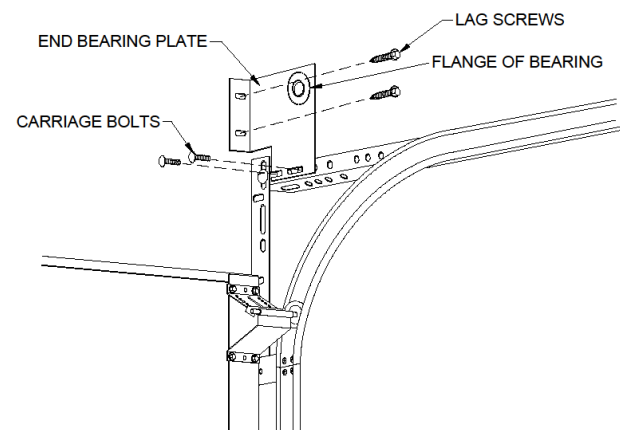

Figure 17
Step 20: Fasten the end bearing plates to the horizontal angle with two 5/16" carriage bolts and flange nuts. Be certain the flange of the bearing is to the inside (door side) of the track. Fasten the end bearing plates to the jambs with one 5/16" x 1 5/8" lag screw. See figure 17.